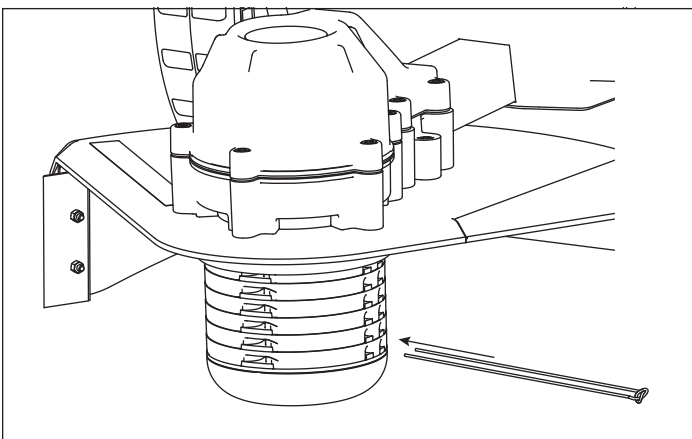

Figure 3
4. Feed each end into the set of holes at the desired cutting height. Cutting height is determined by which holes the cutting line is inserted into. **SEE FIGURE 3**